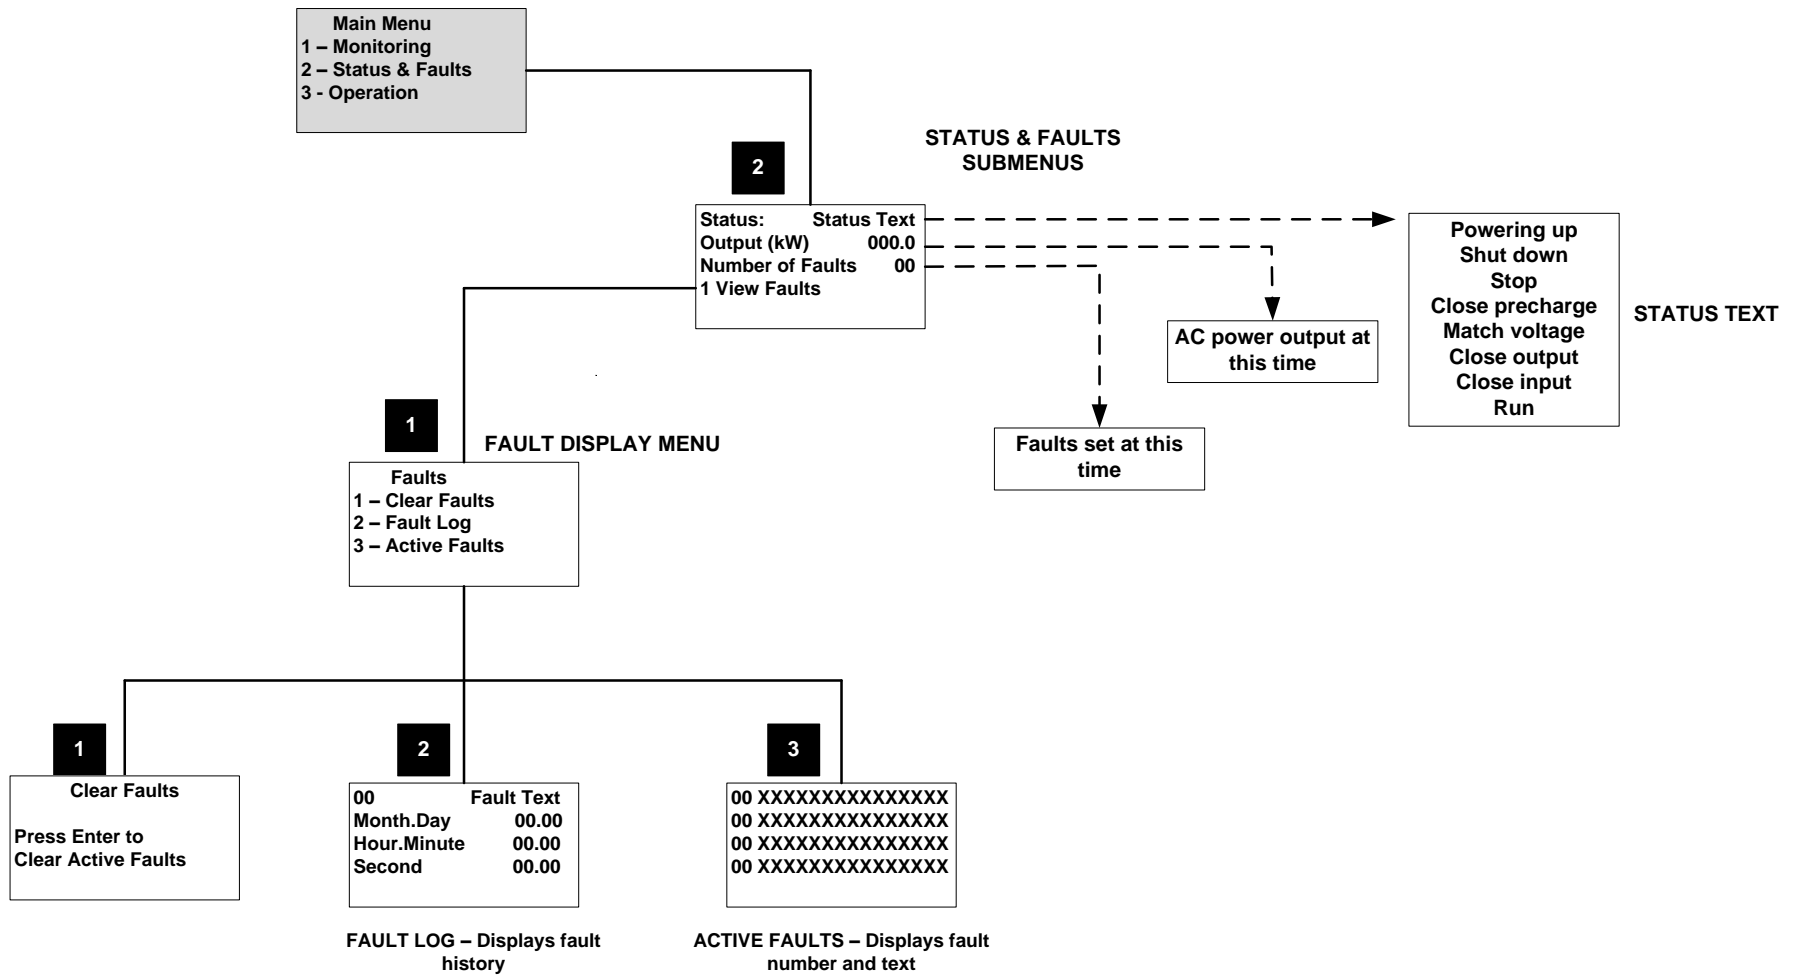

Figure 32 Status and Faults Menu Hierarchy
- Status and Faults menus (Refer to Figure 32)
The following information describes the Status and Faults submenus. See also Figure 32 and Table 24.